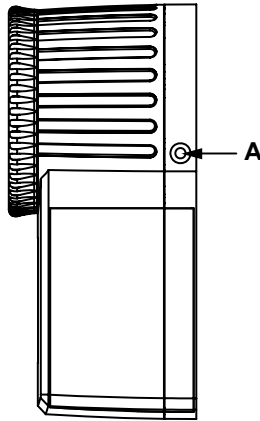

Fig. 5: Loosen the screws of the wireless door lock drive
- Fig. 5: Loosen the screws of the wireless door lock drive 35